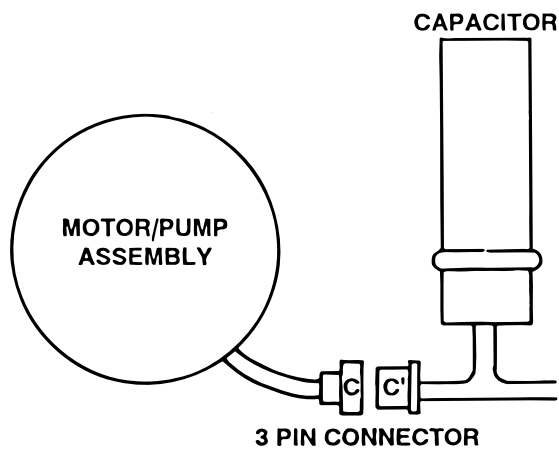

Figure 5-12.
2. Disconnect the 3 pin connector C' and C at the motor. Leave all other connectors connected. See figure 5-12.